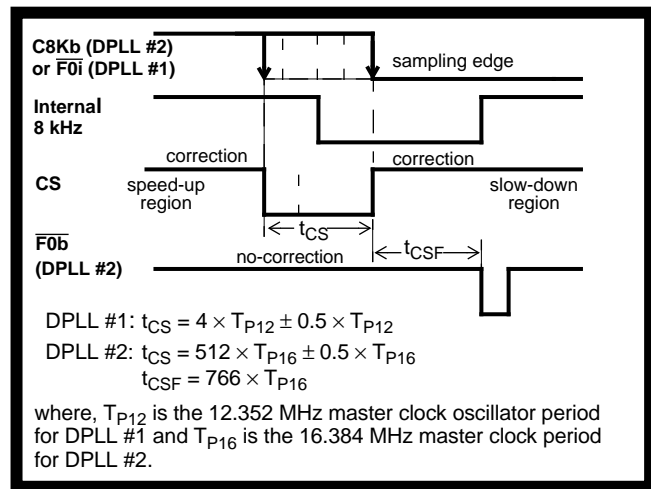

Figure 4 - Phase Comparison
As shown in Figure 4, the falling edge of the 8 kHz input signal (C8Kb for DPLL #2 or F0i for DPLL #1) is used to sample the internally generated 8 kHz clock and the correction signal (CS) once in every frame (125 μs). If the sampled CS is "1", then the DPLL makes a speed-up or slow-down correction depending upon the sampled value of the internal 8 kHz signal. A sampled "0" or "1" causes the frequency correction circuit to respectively stretch or shrink the master clock by half a period at one instant in the frame. If the sampled CS is "0", then the DPLL makes no correction on the master clock input. Note that since the internal 8 kHz signal and the CS signal are derived from the master clock, a correction will cause both clocks to stretch or shrink simultaneously by an amount equal to half the period of the master clock.
The no-correction window size is 324 ns for DPLL #1 and 32 μs for DPLL #2. It is possible for the relative phase of the reference signal to swing inside the no-correction window depending on its jitter and the relative drift of the master clock. As a result, the phase relationship between the input signal and the output clocks (and frame pulse in case of DPLL #2) may vary up to a maximum of window size. This situation is illustrated in Figure 4. The maximum phase variation for DPLL #1 is 324 ns and for DPLL #2 it is 32μs. However, this phase difference can be absorbed by the input jitter buffer of Mitel's T1/CEPT devices.